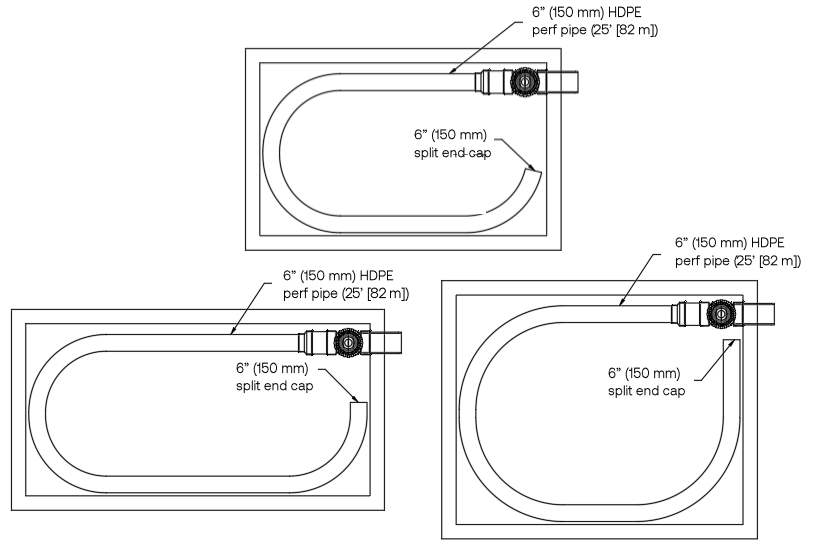

Figure 10: underdrain configurations for EcoStream models using Underdrain Kit 3
2. Install the underdrain assembly (figure 10). See drawing detail for assembly components.
- e. Install 25' (7.6 m) of 6" (150 mm) perf pipe as shown in figure 10.
- f. Attach 6" (150 mm) split end cap to end of underdrain pipe as shown in figure 10.